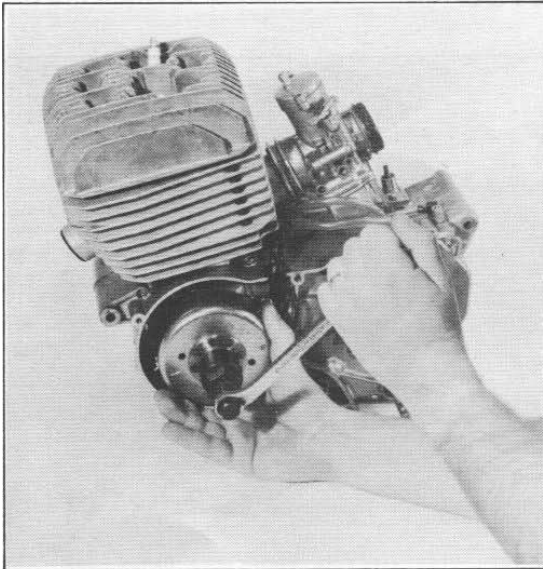

Figure 5.9. Pulling Alternator from Crankshaft End
Remove rotor (3) from crankshaft using tool, Part No. 97302-70M, as shown in Figure 5.9.